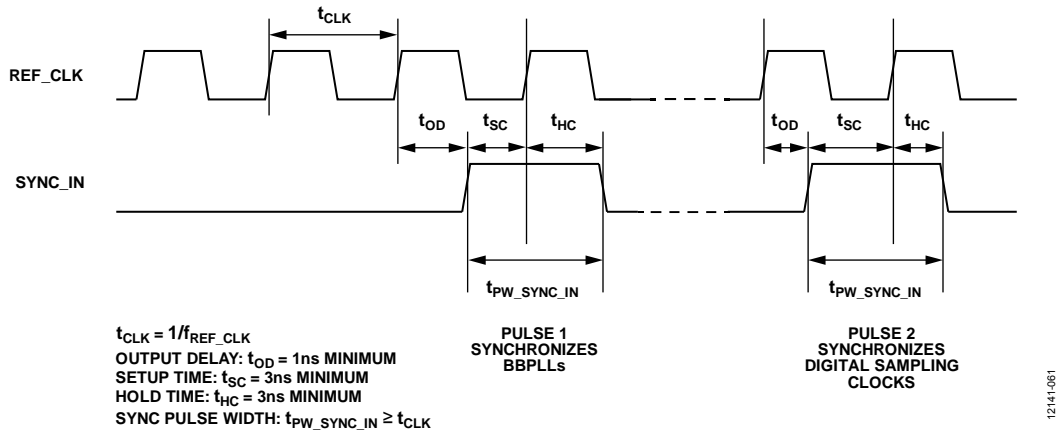
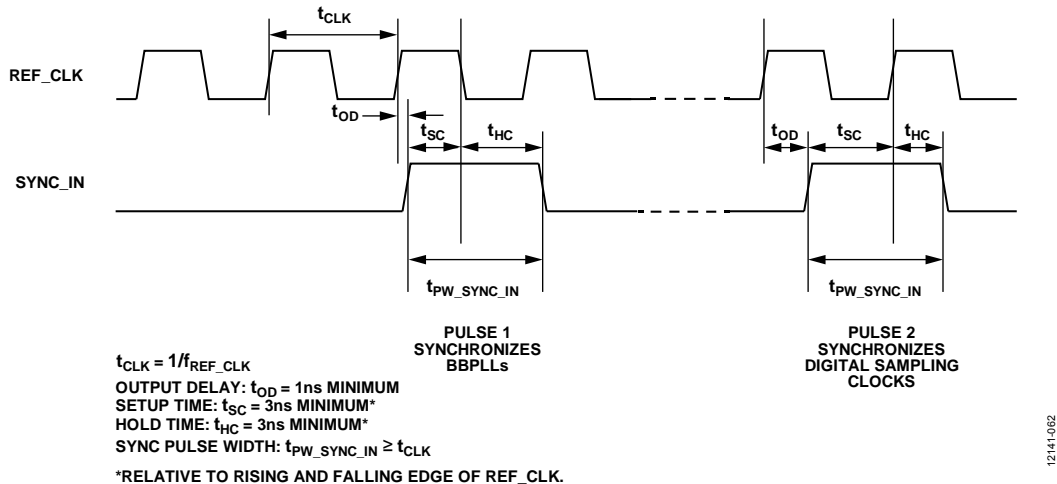
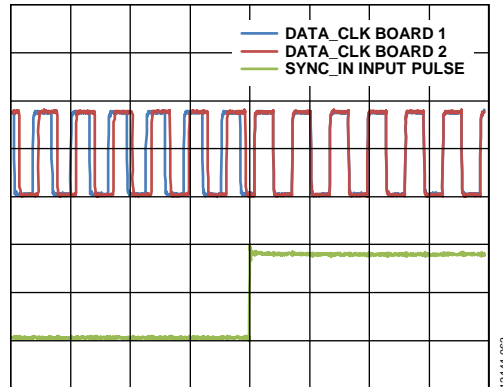

Figure 56. AD9364 BB Multichip Synchronization SYNC_IN Pulse Timing (BBPLL Internal REF_CLK Set to 1x)
Figure 57. AD9364 BB Multichip Synchronization SYNC_IN Pulse Timing (BBPLL internal REF_CLK Set to 2x)
Figure 58. Clock Signals of AD9364 IC1 and IC2 Before and After Second SYNC_IN Pulse (Initial Phase Random)
5. Input a rising-edge pulse to the SYNC_IN pin of each device. The timing requirements of this signal are illustrated in Figure 56 for the case where the internal BBPLL REF_CLK is a buffered version of the external REF_CLK and in Figure 57 for the case where the internal BBPLL REF_CLK is 2x the external REF_CLK. MCS cannot be used if the 1/2x or 1/4x options are selected for the internal BBPLL REF_CLK. Note that the SYNC_IN pulse rising edge must have a delay from the REF_CLK input to XTALN to ensure synchronization. This action synchronizes the BBPLL of each device to the same reference clock.
Data synchronization can be verified by observing the DATA_CLK signal of each chip simultaneously using an oscilloscope. The waveforms will overlap after successfully completing the sync procedure. Similarly, the CLK_OUT pin on each device (when enabled) can be monitored to determine if the ADC clocks are synchronized. Figure 58 illustrates the DATA_CLK signals of two devices before and after the second SYNC_IN pulse occurs. Note that the SYNC_IN pulse is much longer in duration than the DATA_CLK signals in this example. As long as the setup and hold times meet the requirements listed in Figure 56 and Figure 57, this is an acceptable combination because the SYNC_IN input is edge detected by the REF_CLK reference.